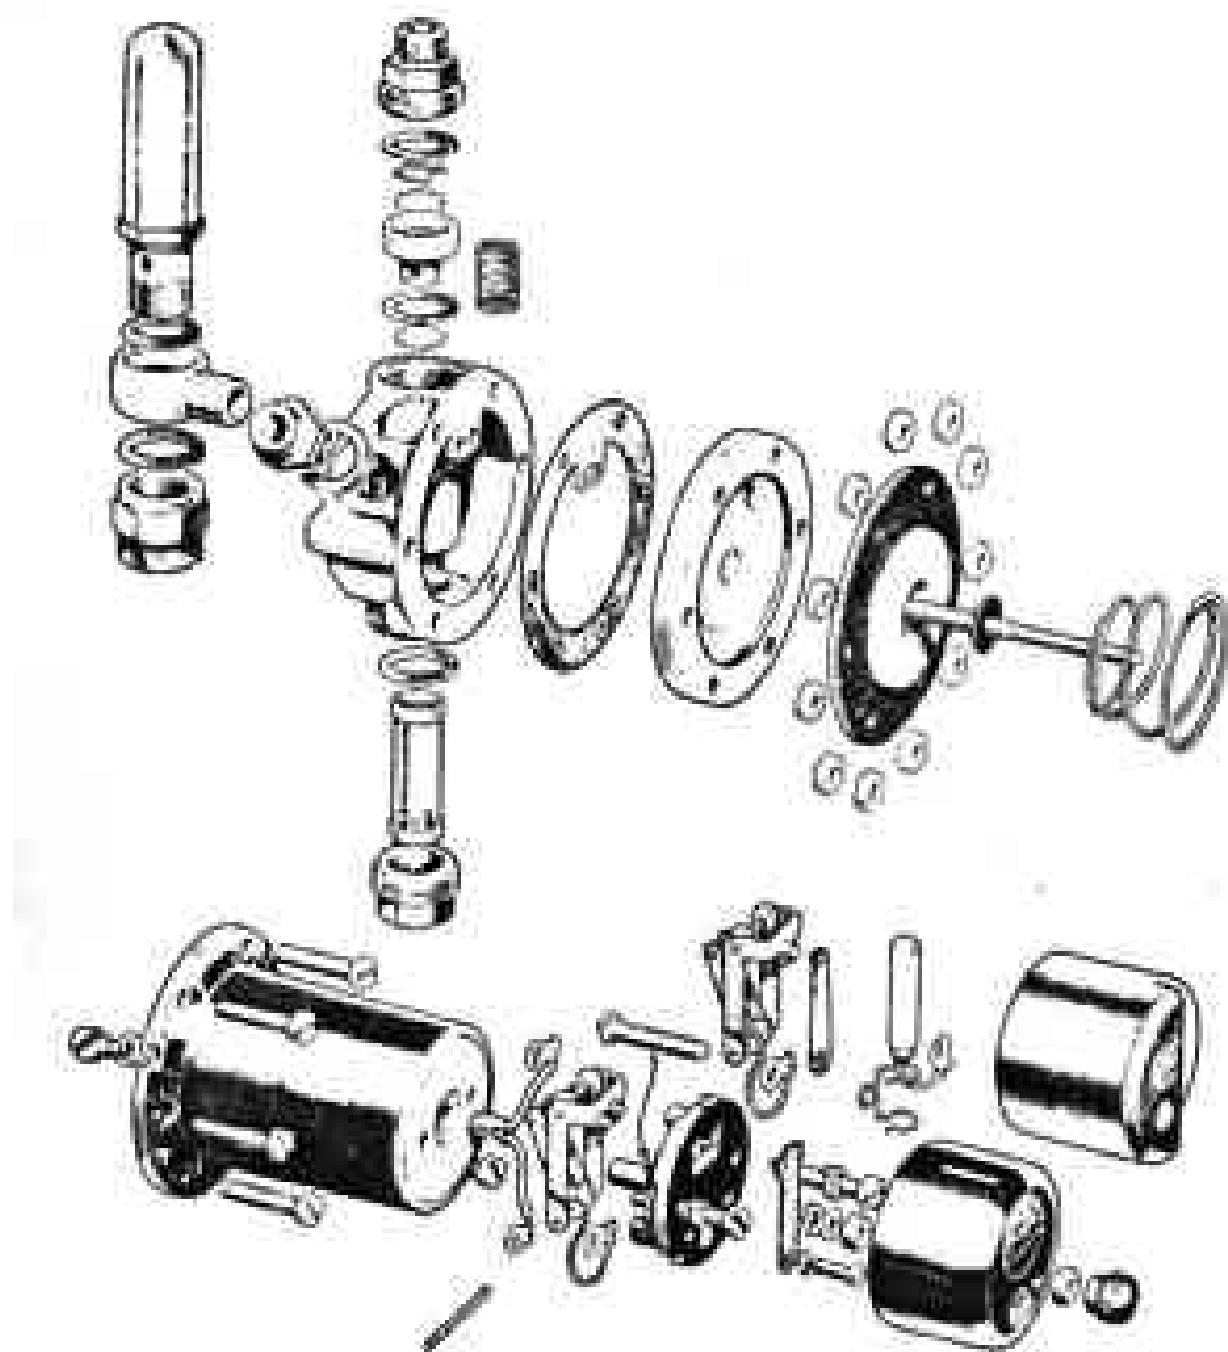

FIG. 106 EXPLODED VIEW OF 'H.P.' TYPE S.U. FUEL PUMP
(2) High Pressure Type
H.P. (high pressure) type (Fig. 106) is designed to give an increased pressure feed to the carburettor, and has a maximum capacity of 10 gallons per hour.